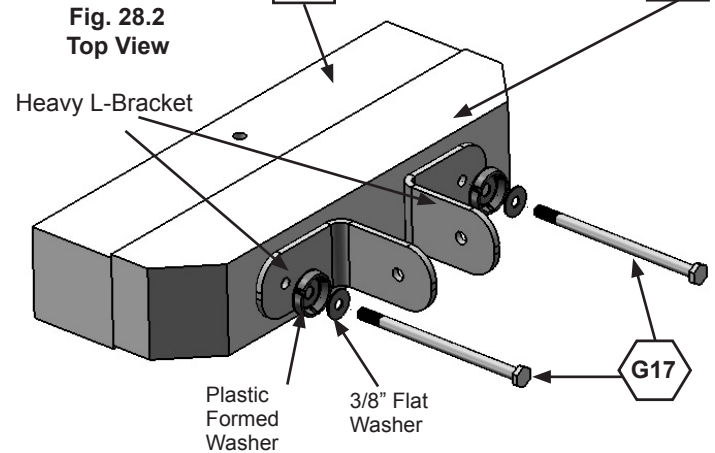

Fig. 28.3
B: Attach 3 (WB7) 5/16 x 3" Wafer Bolts (with flat washer and t-nut) to all three holes in each (282) SW Post as shown in fig. 28.3 and 28.4. **IMPORTANT! MAKE SURE ALL 6 BOLTS ARE ATTACHED TO MINIMIZE CHECKING OF WOOD.**